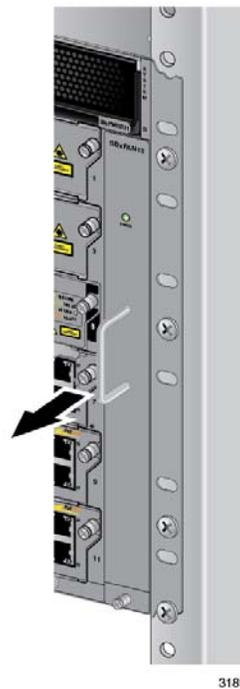

Figure 162. Loosening the AT-SBxFAN12 Fan Module from the Backplane Connector
6. Carefully pull on the handle to disconnect the fan module from the connector on the backplane of the chassis. Refer to Figure 162.